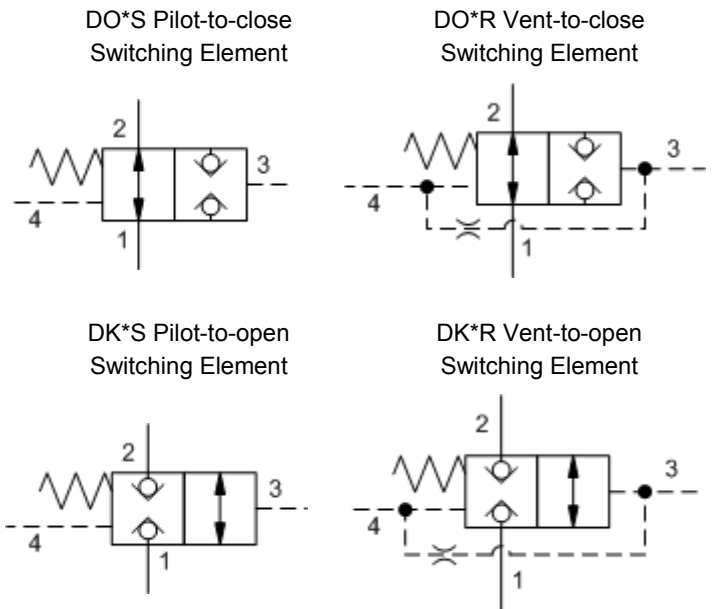

Figure 6: Balanced Switching Cartridges
- DK*S pilot-to-open and DK*R vent-to-open (normally closed) balanced switching cartridges (see figure 6).